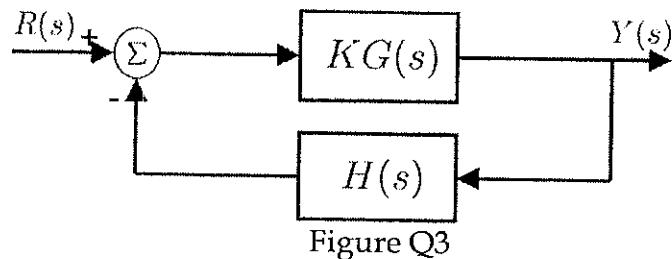

Figure Q3
- Q3 a) Consider the closed-loop system shown in Figure Q3.
- b) Consider the closed loop control system shown in Figure Q3 with